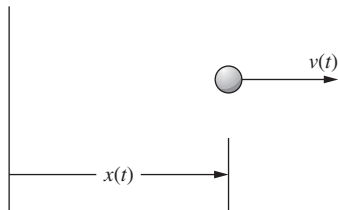

Figure P8.5 A particle moving in the horizontal direction.
- 8-5.** The motion of a particle moving in the horizontal direction as shown in Fig. P8.5 is described by its position $x(t)$. Determine the position, velocity, and acceleration at $t = 3.0$ s if
- 8-6.** The motion of a particle moving in the horizontal direction as shown in Fig. P8.5 is described by its position $x(t)$. Determine the position, velocity, and acceleration at $t = 1.5$ s if
- 8-7.** The motion of a particle in the horizontal direction as shown in Fig. P8.5 is defined by its position $x(t) = 2t^3 - 30t^2 + 144t + 30$, where t is in seconds and $x(t)$ is in meters.